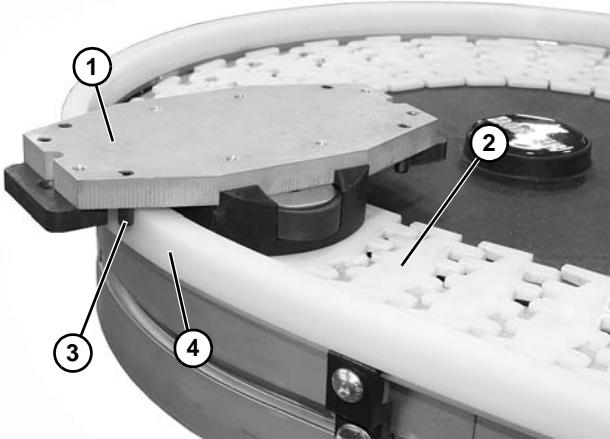

Figure 1
1. Place pallet (**Figure 1, item 1**) on conveyor belt (**Figure 1, item 2**).
2. Make sure that the guide pins (**Figure 1, item 3**) are on the outside of the wear strip (**Figure 1, item 4**).